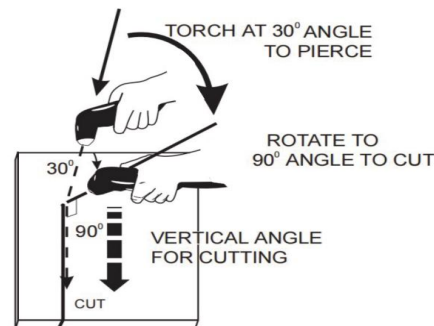

Figure 17 Cutting operation
4. Figure 17 is for reference only.